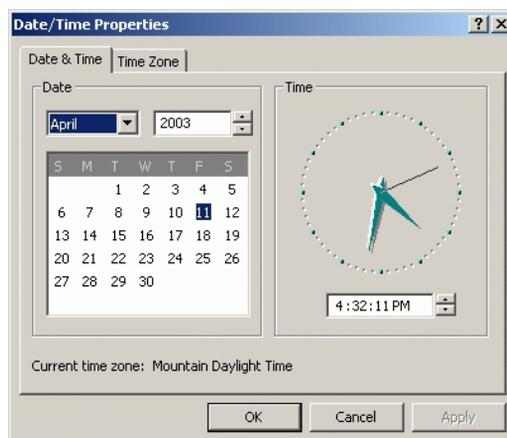

Figure 25 Date/Time Properties Dialog Box (Date & Time Tab)
2. Double-click the *Date/Time* icon. The *Date/Time Properties* dialog box displays with the *Date & Time* page open (Figure 25).